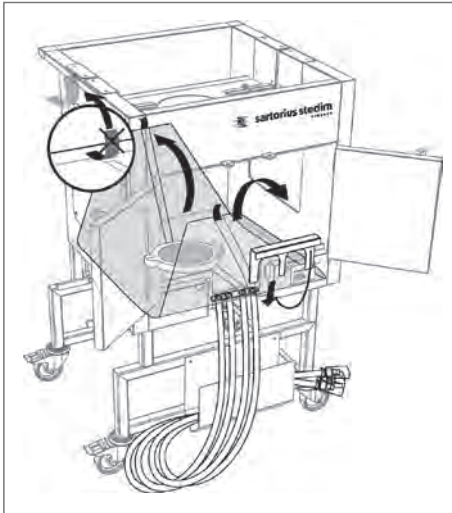

Figure 50
10. Remove the adhesive tape and the foam from the Flexel® Bag for LevMixer® (see Fig. 50). Unfold the bag and position the 4-port system in the dedicated front gate and the tubing in their holder.